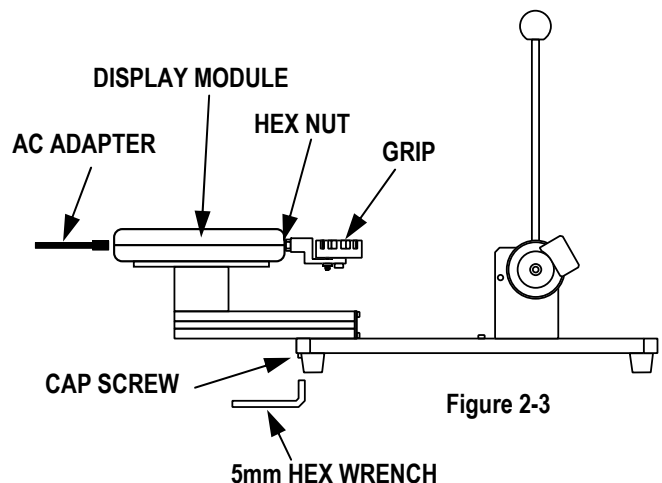

Figure 2-3
**2.3 Installation** (See Figure 2-3)